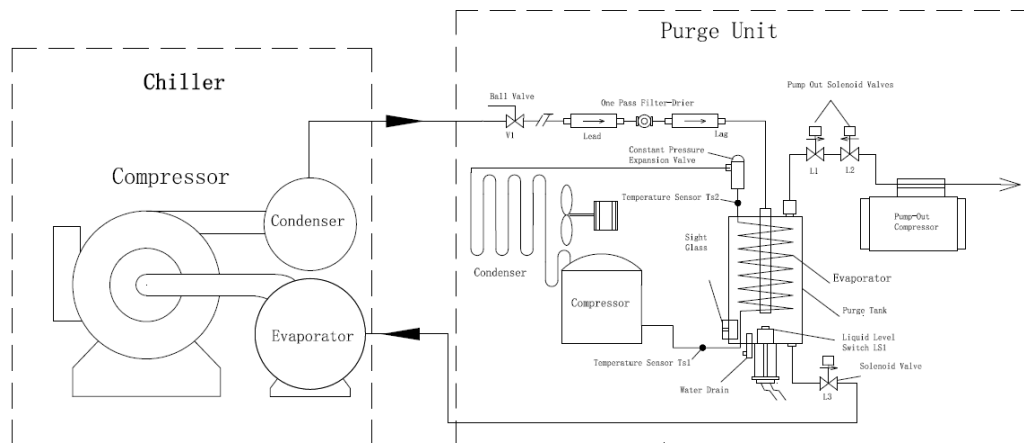

Fig. 2-5 Purge unit working principle
The purge cycle is an independent cycle that completed by the purge unit. The main purpose of this cycle is separating the non-condensable gas that probably mixed in the R1233zd(E) low-pressure chiller. For more detailed of the The working principle, please refer to section 5.1. is shown as Fig. 2-5.